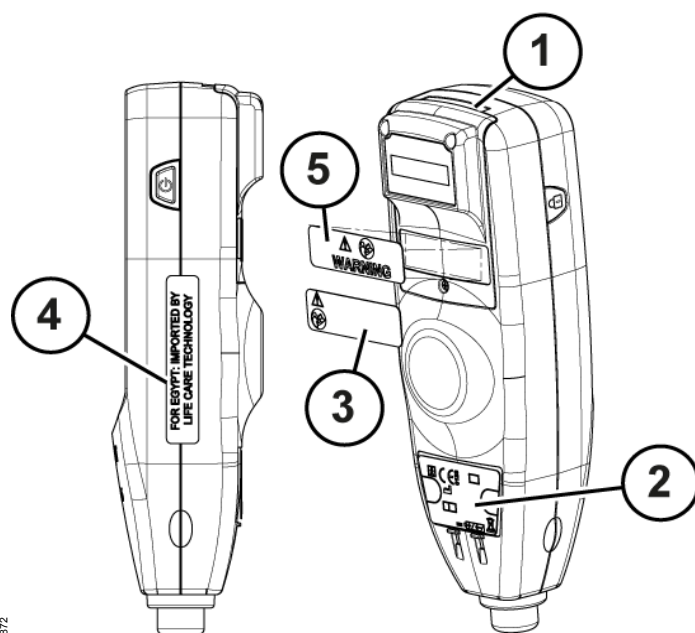

Fig. 3 Labels JM-105 Jaundice Meter
- Serial number (Fig. 3/1).
- Name plate with WEEE icon (Fig. 3/2).
- Warning/Caution (Fig. 3/3).
- Label for Egypt only (Fig. 3/4).
- Warning/Caution (Fig. 3/5).